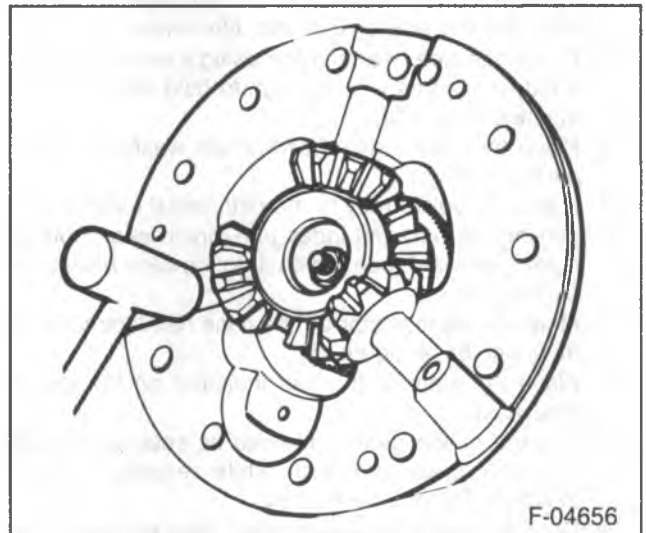

Figure 14—Installing the Pinion Yoke
4. Install the yoke firmly to the differential case half (figure 14).